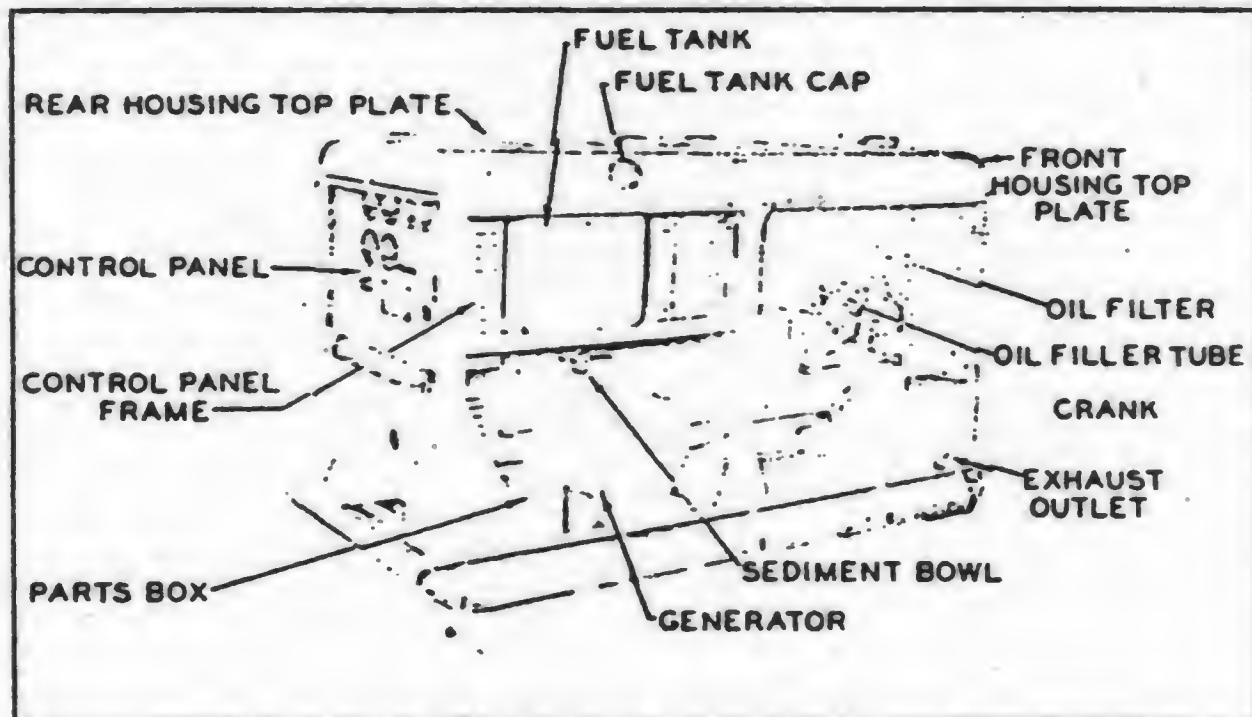

FIG. 2 POWER UNIT JWC4-10S-3 (LEFT SIDE)
a. **Purpose.**—The generator supplies the alternating-current power output of the power unit. This generator assembly really consists of two individual generators, the alternator and the exciter, (Fig. 2).